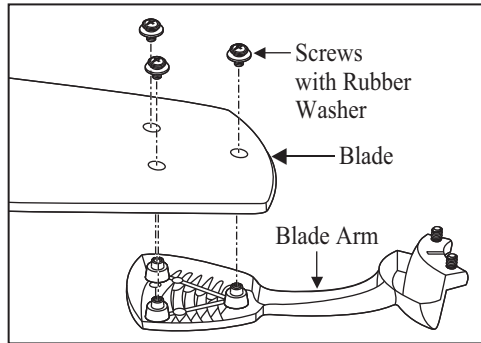

Figure 17
1. Attach blades to blade arm using the screws with rubber washers provided (Fig. 17). Start a screw into the blade arm, do not tighten. Repeat for the 2 remaining screws and washers.